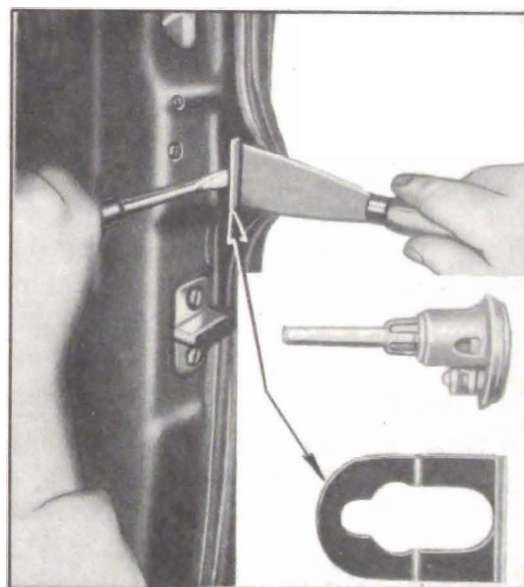

Figure 13-9—Safety Lock Removal—1948 Model Shown
2. Insert putty knife between door flange and retainer and at same time pry the retainer out about $\frac{1}{2}$ " with another putty knife or thin screwdriver. Remove safety lock from its opening in the door panel. See figure 13-9.